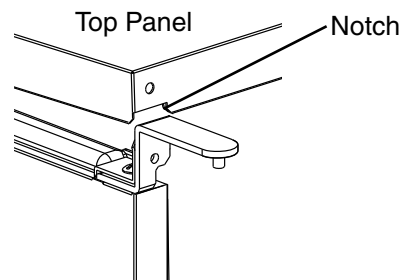

Fig. 7
- e) Rotate the top panel 180° from its previous position. This brings the notch that was previously in the right rear to the left front. See Fig. 7. Hook the rear part of the panel on the body, then secure the front with the 2 screws removed in step 6b.